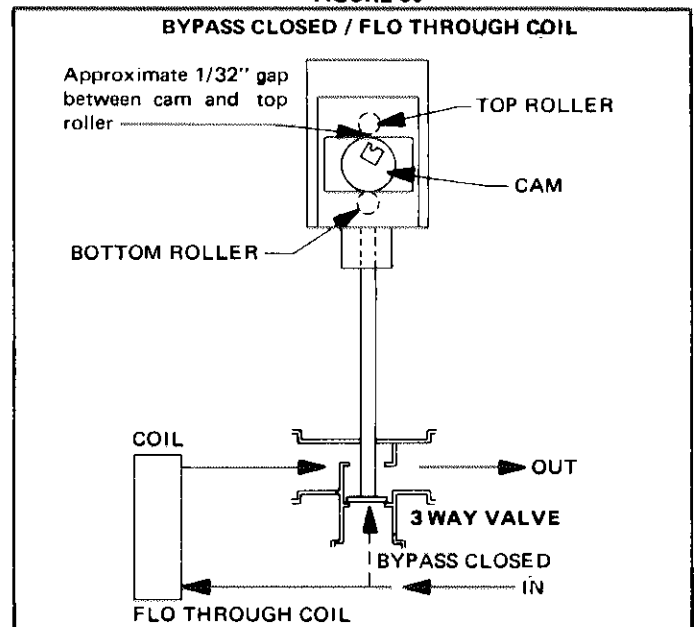

FIGURE 81
- 3 - Remove jumper across C and F terminals. Motor shaft should rotate counterclockwise, lowering valve stem. Refer to Figure 81.